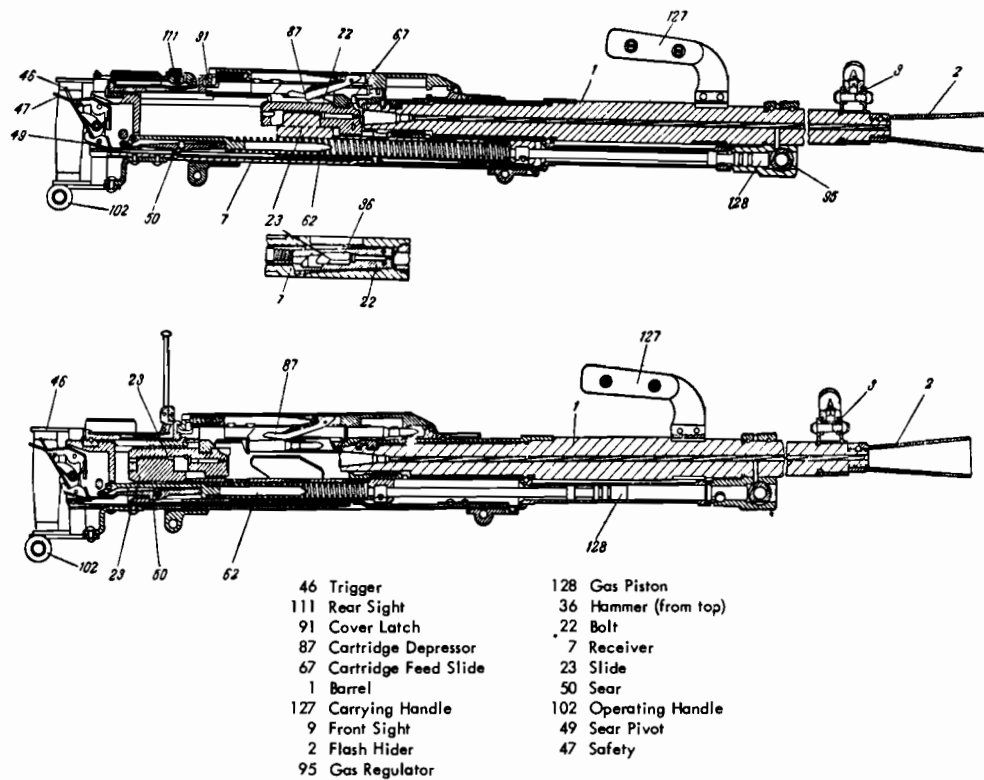

Figure 73. Goryunov machinegun (SG-43), section.
e. To fire, aim--using a normal sight picture--lift up the safety (fig. 73) with the thumb of one hand and press forward on the trigger (fig. 73) with the other thumb. The bolt will remain open between bursts, but will remain closed on an empty chamber when the last round has been fired.